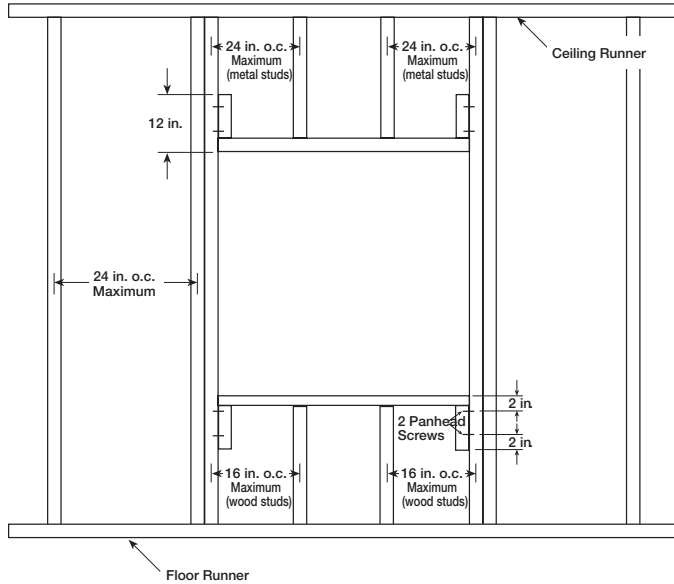

Figure 1
- Frame wall openings as shown below (see Figure 1, 2, & 2A).